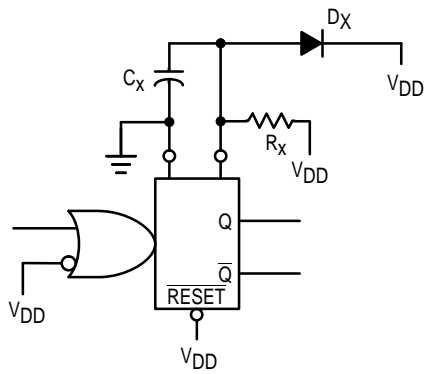

Figure 9. Use of a Diode to Limit Power Down Current Surge
* If $C_X > 15 \mu\text{F}$, Use Discharge Protection Diode D_X , per Fig. 9.